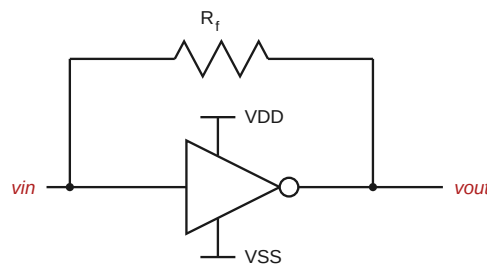

Figure 10: Self-biased inverter amplifier with feedback resistor R_f .
1. Open `inverter.sch` in Xschem and add a resistor between the `vin` and `vout` nets, as shown in Figure 10. For a first schematic-level study, the generic `res.sym` device is fine. Start with $R_f = 1\text{ M}$.